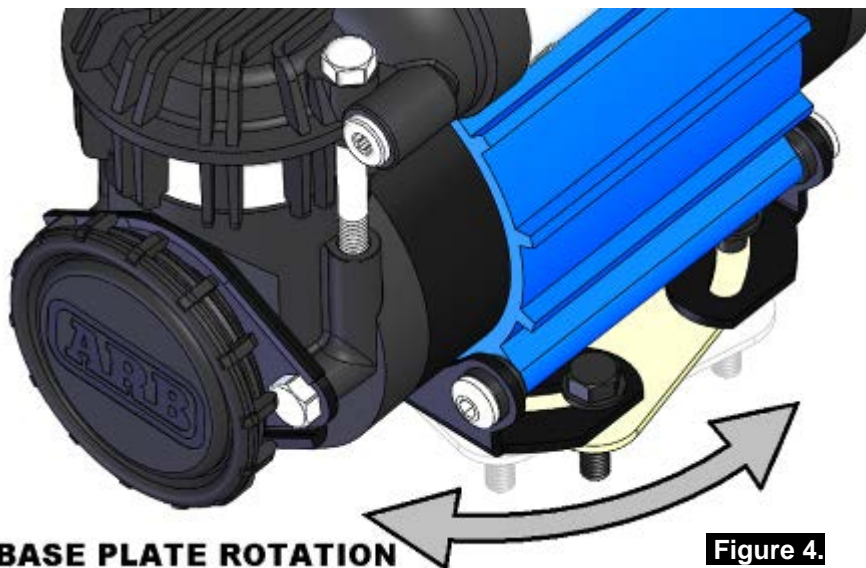

Figure 4.
- ☐ Rotate the compressor on the mounting bolts to the most desirable position (Ref Fig.4.).